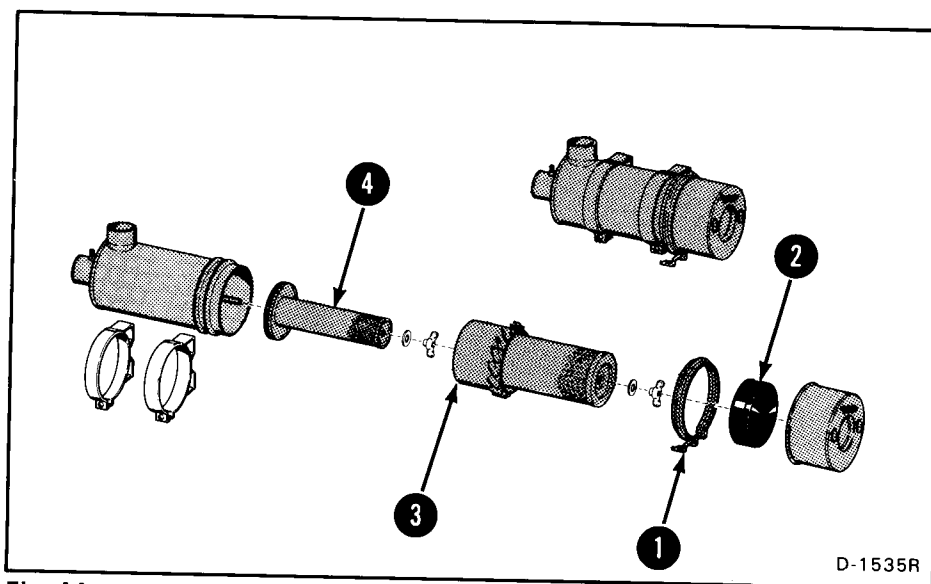

Fig. 44 Air Cleaner Filter
1. Loosen the clamp on the dust cup (Fig. 44, Item 1). Remove the dust cup and the element. Remove the rubber boot (Fig. 44, Item 2) and empty the dust cup.
2. Clean the inside of the filter housing so that the element has a smooth surface to contact at the seal (Fig. 44, Item 3) from corrosion, especially if the Bobcat loader is used in a fertilizer application.
3. Install the outer filter element. Replace the inner filter element (Fig. 44, Item 4) every third time of servicing or if the red ring still shows, in the indicator window after replacing the outer element.